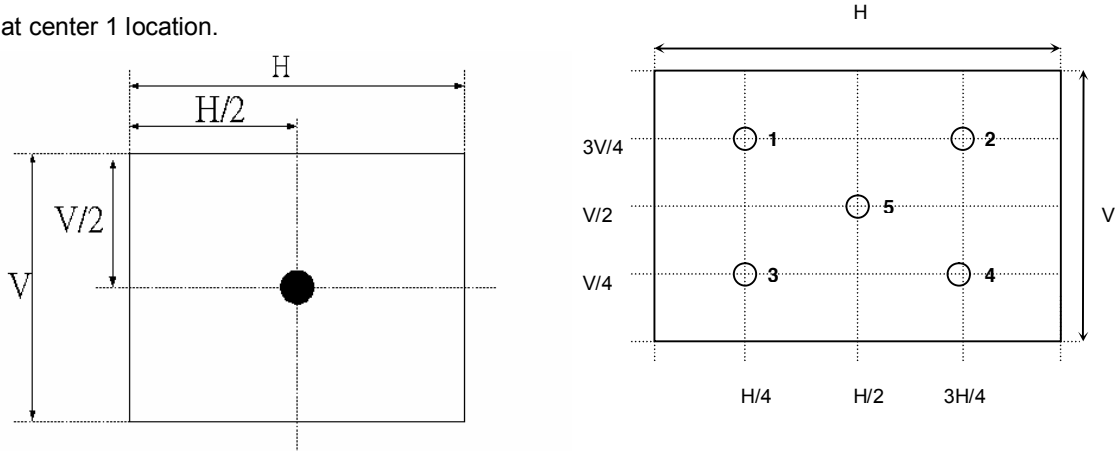

Fig.4-2 Optical measurement point
2. Surface luminance is luminance value at point 1 across the LCD surface 50cm from the surface with all pixels displaying white. From more information see Fig. 4-2. When $V_{BL} = (1765V)$, $I_{BL} = (99mA)$, lamp frequency(typ) = 62KHz. $L_{WH} = L_{on1}$, Where L_{on1} is the luminance with all pixels displaying white at center 1 location.